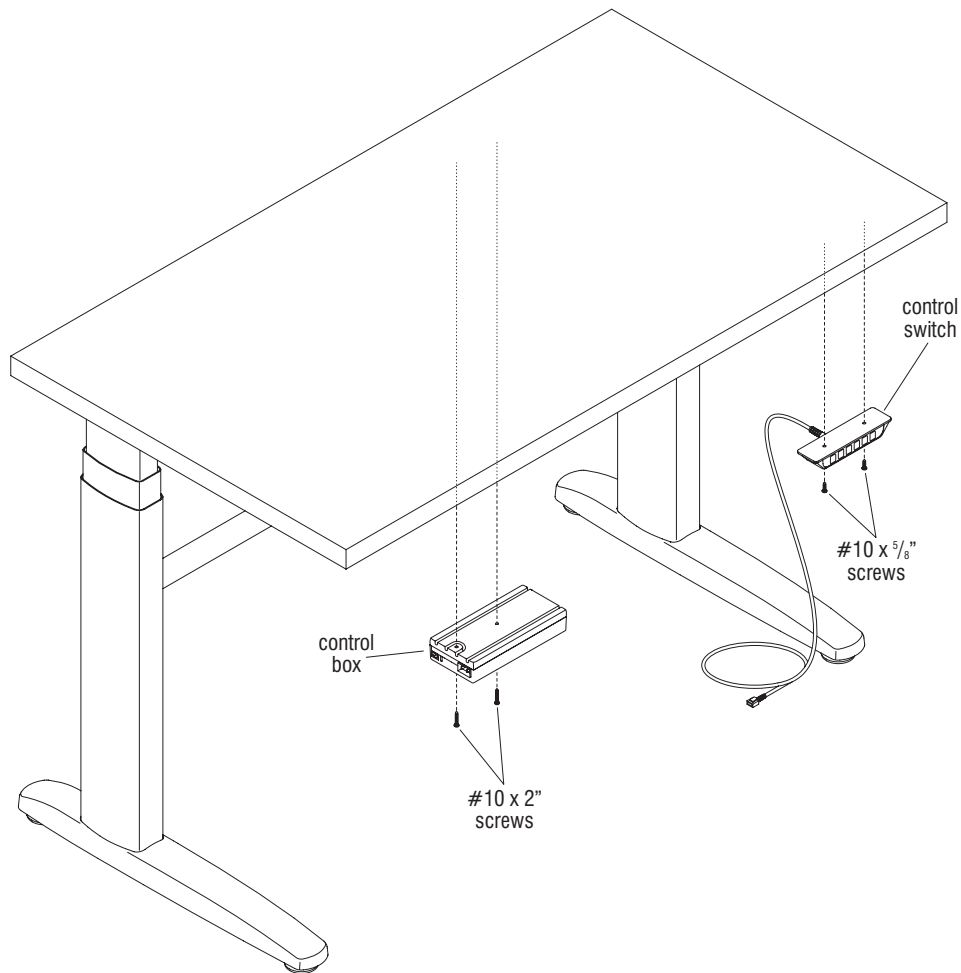
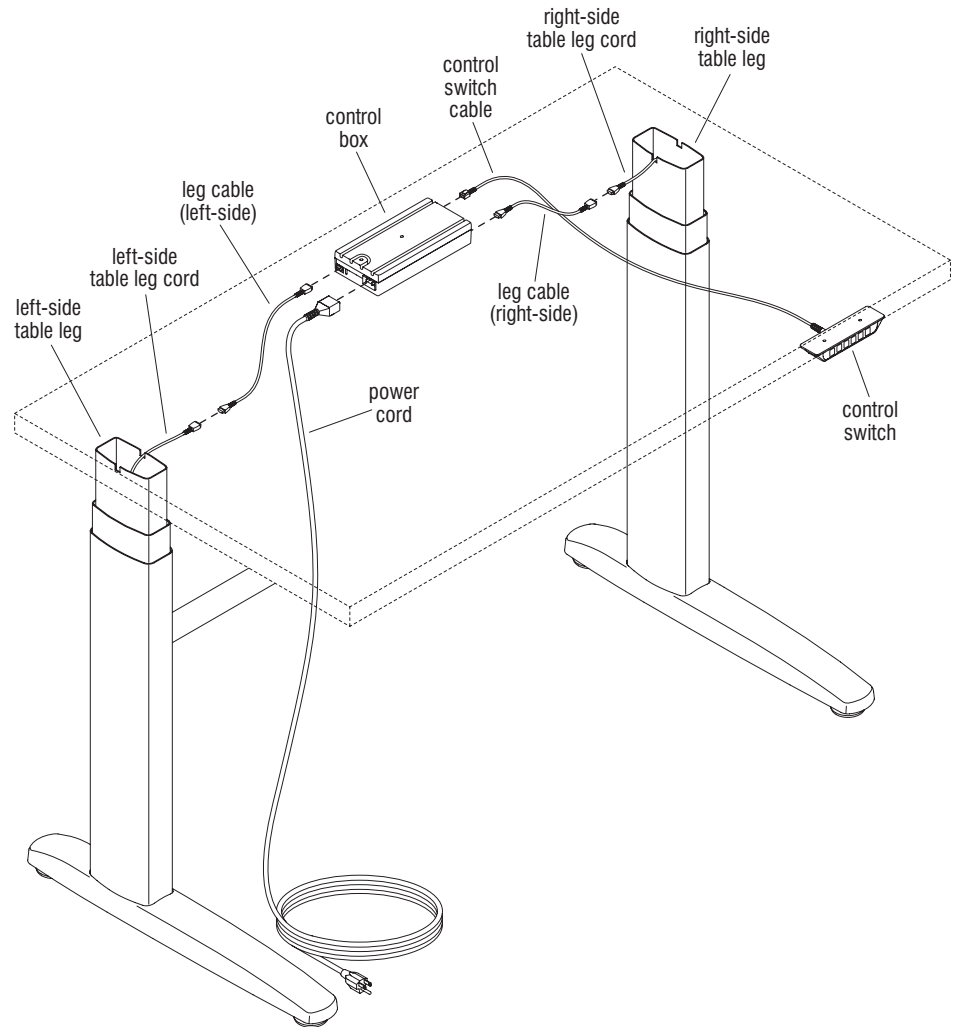

Figure 1
Figure 2
1. Mount the control box to the underside of the work surface using two #10 x 2" screws (Figure 1).
2. Mount the control switch to the front underside of the work surface using two #10 x 5/8" screws (Figure 1).
1. Plug the control switch cable into the appropriate receptacle on the control box (Figure 2).
2. Locate the cord exiting the top of the right-side table leg and plug a leg cable into that leg cord, then plug the other end into the right side of the control box as illustrated (Figure 2).
3. Locate the cord exiting the top of the left-side table leg and plug a leg cable into that leg cord, then plug the other end into the left side of the control box as illustrated (Figure 2).
Press and hold the Down button on the control switch (Figure 1). The unit will lower to the end stop and stop moving. Release the down arrow. Press the down arrow again, the unit will then raise approximately 5 mm, and then slowly lower to the end stop again. Release the button only when the unit has stopped moving completely (Figure 2).